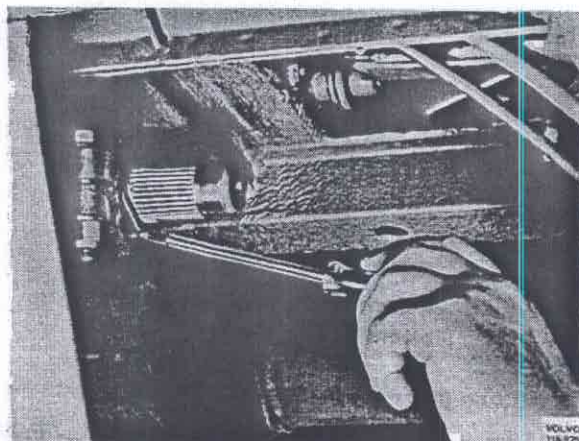

Fig. 64-5. Removing the sealing ring
3. Lever out the sealing ring with a screwdriver as shown in Fig. 64-5. Do not knock in the screwdriver too far otherwise it might damage the bushing for the sector shaft.